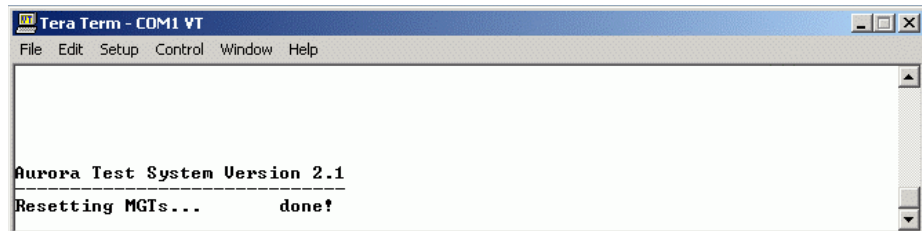

Figure D-7: Resetting the MGTs
8. After selecting one of the two tests, the screen will clear, and the reset /link status is displayed as shown in Figure D-7.